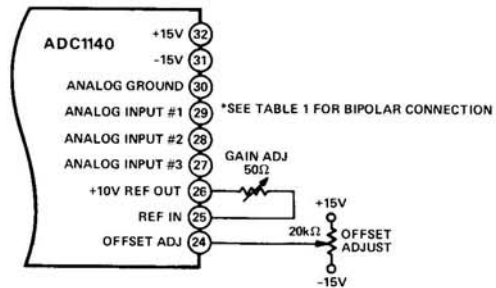

Figure 3. Offset and Gain Calibration
¹ Offset and gain error are adjustable to zero by means of external potentiometers. See Figure 3 for proper connection.
For operation, the only connections to the ADC1140 that are necessary are the power supplies, internal or external reference, input voltage pin programming, convert command and digital output. Refer to Table I for input pin programming and Figure 3 for offset and gain calibration.
*If Internal Reference is used, Pins 25 and 26 must be connected together through a 50 Ω potentiometer or 24.9 Ω fixed resistor (see Figure 3 and the gain calibration section).
Initial offset and gain errors can be adjusted to zero by potentiometers as shown in Figure 3. Proper offset and gain calibration requires great care and the use of an accurate and stable voltage reference. The voltage standard used as a signal source must be very stable. It should be capable of being set to within 1 μV of the desired value at both ends of its range. The potentiometers selected should be of the good quality Cermet type. Multi-turn potentiometers having ten to fifteen turns and 100ppm/ $^{\circ}C$ temperature coefficients will be adequate. The temperature coefficients contributed by these Cermet potentiometers will be less than 0.1ppm/ $^{\circ}C$.